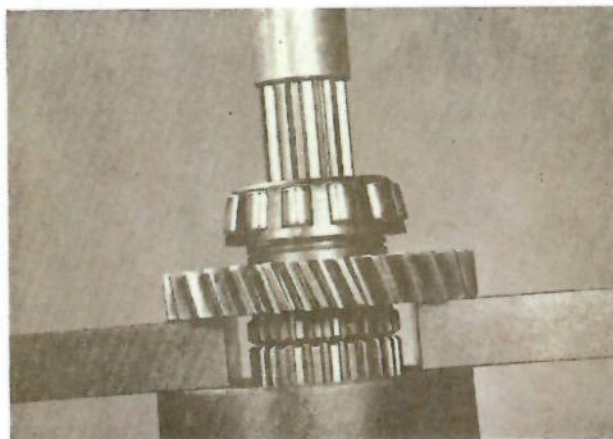

FIG. 16 — REMOVING THE CONE OF FRONT TAPERED ROLLER BEARING FROM THE TRANSFER DRIVE SHAFT.
27. Remove the high/low clutch hub from the driveshaft, taking note of its orientation. Press the cone of the front tapered roller bearing, the thrust plate, the high speed transfer gear and the high speed gear bushing from the driveshaft, (Fig. 16). NOTE: This shaft will not be used in making the over-drive installation.